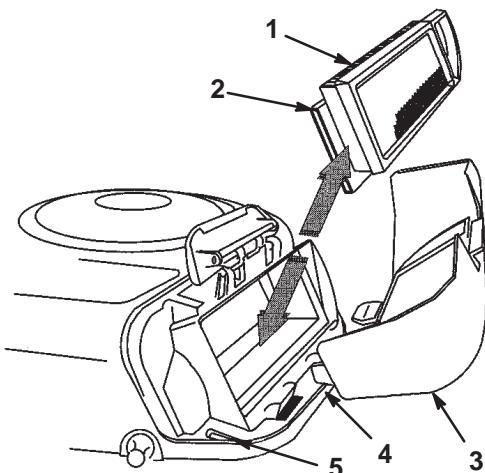

Figure 18
- Carefully slide the paper element and foam element from the blower housing (Fig. 18).
- Align the tabs on the air cleaner cover with the slots of the blower housing (Fig. 18). Hook the handle onto the cover and press down on the handle to lock the cover in place.